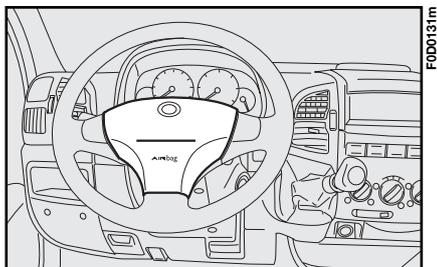

fig. 137
- in the centre of the steering wheel for the driver; **fig. 137**;